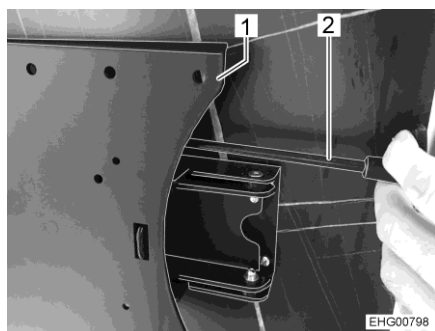

Fig. 81 Wall holder
- Positioning:** ■ Pull the release lever (Fig. 81,2) and turn the holder (Fig. 81,1) with the flat screen to the desired position.